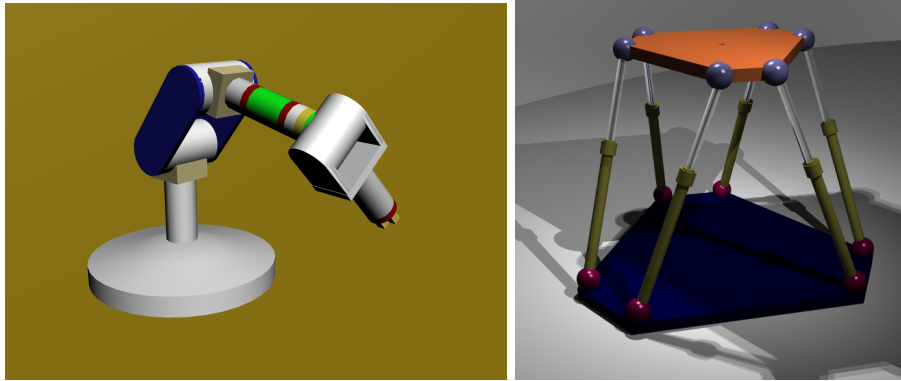

Figure 1: Left: Serial Robot, Right: Parallel Robot (Source: Wikipedia)
Exercise 1 *The most typical robot architectures of serial and parallel types are shown in Figure 1. The serial robot on the left has six revolute joints and six moving links. The parallel robot on the right has six spherical joints each on the base and end effector of the robot connected by a prismatic joint. Draw their topological graphs.*
Exercise 2 Using Equation 1, compute the mobility of two robots shown in Figure 1. Additionally,
2. Does the formula work for redundant degrees of freedom when applied to parallel mechanisms? If not, what simplification one needs to make for using it to compute the mobility of the parallel robot in Figure 1.